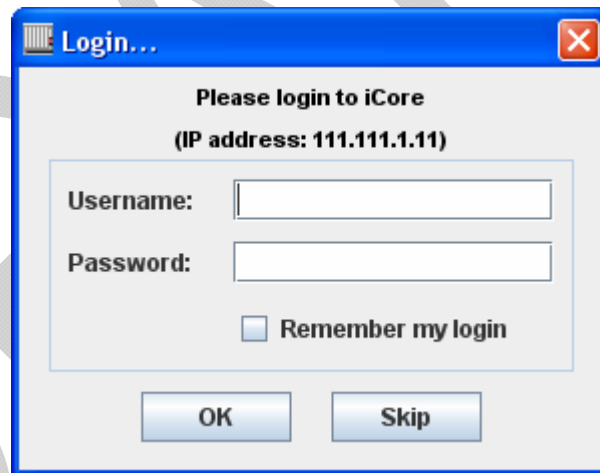

Figure 15 – iCore Login Screen
8. From the iCore Login screen as shown in Figure 15 below, enter a Username and Password, and then press the “OK” button.